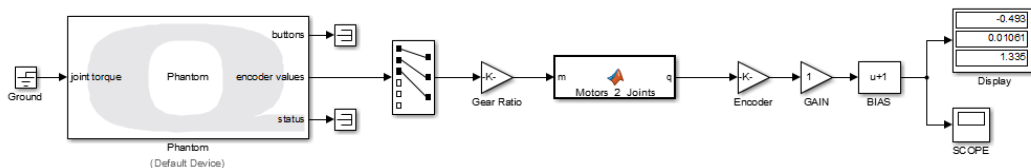

Figure 8: Updated diagram after adding a linear offset.
- Insert a **Bias** block between the **Gain** block and the **Scope**. Enter the biases you found in Question 4 as a vector. Your diagram should look like Figure 8.